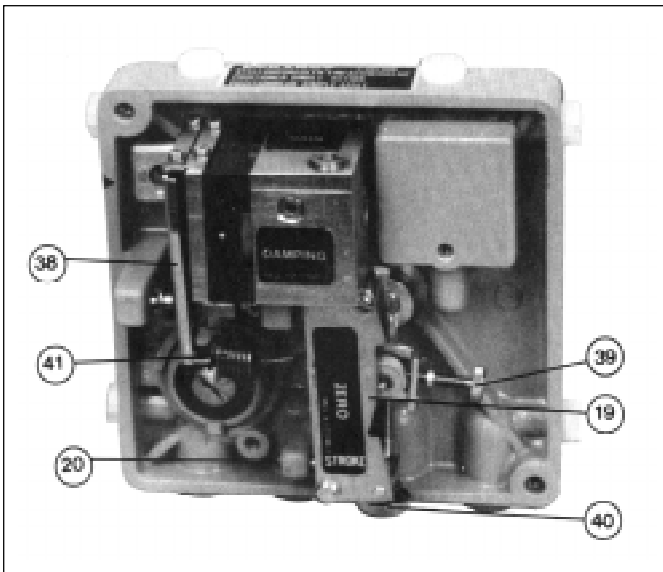

Figure 9
2. To remove/change the range spring (41) see Figure 9; hold stroke factor lever (19) against the travel stop pin (20) and simultaneously hold the zero thumbscrew (39). Using needle nose pliers, remove the end of the range spring (41) hooked to the flapper; then remove the opposite end from the zero mechanism. Reverse the procedure with the new/different range spring (41). Always make sure that the range spring's (41) coils are closest to the flapper lever (38).
3. After removal/change of the range spring (41), recalibration is required. See Section V.
A. ZERO AND STROKE Settings: (See Figure 9)